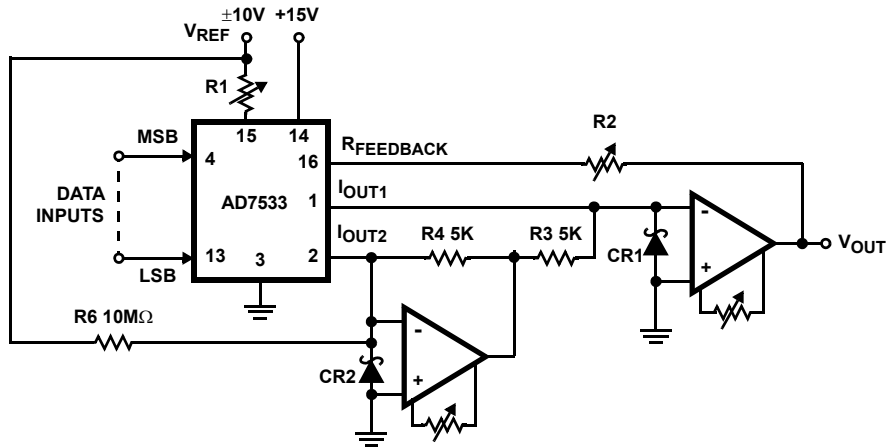

FIGURE 3. BIPOLAR OPERATION (4-QUADRANT MULTIPLICATION)
The circuit configuration for operating the AD7533 in the bipolar mode is given in Figure 3. Using offset binary digital input codes and positive and negative reference voltage values, 4-Quadrant multiplication can be realized. The “Digital Input Code/Analog Output Value” table for bipolar mode is given in Table 2.
- 12. V_{OUT} as shown in Figure 3.
- 13. Nominal Full Scale for the circuit of Figure 3 is given by:
- 14. Nominal LSB magnitude for the circuit of Figure 3 is given by: